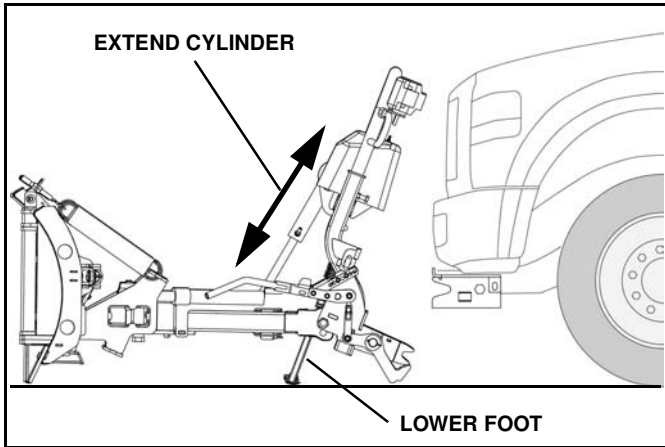

Figure 1-42
2. Using Down Pressure™, extend the cylinder (lower the plow) until the lift cylinder is fully extended. Lower the foot. (See Figure 1-42).